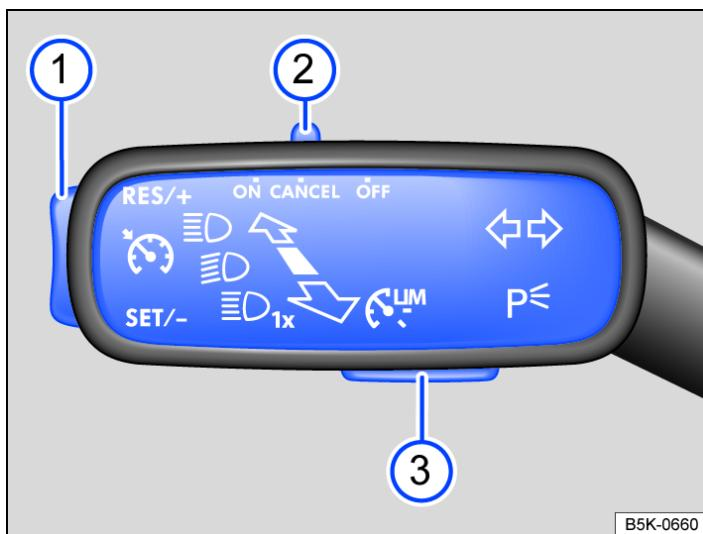

Fig. 1 On the left of the steering column: switch and buttons for operating the speed limiter.
- Move → Fig. 1 ② switch to position **ON**.
- Press → Fig. 1 ① button in the area **SET/-** while driving.